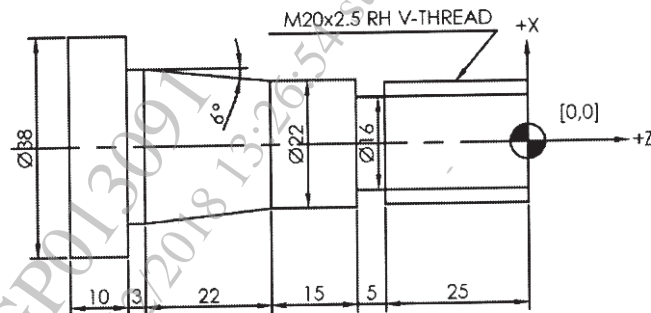

Figure 2:
- Q5) a)** Write CNC program using G and M codes with suitable CANNED CYCLES to turn the mechanical component shown in figure 2 from bar stock of  $\phi$  38 mm. Assume suitable cutting data. [12]